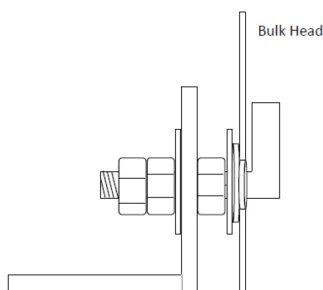

Figure 1
Step 1: Unwrap your new *LoadMaster* truck slide and check to ensure that all parts are included. See diagram Fig 1